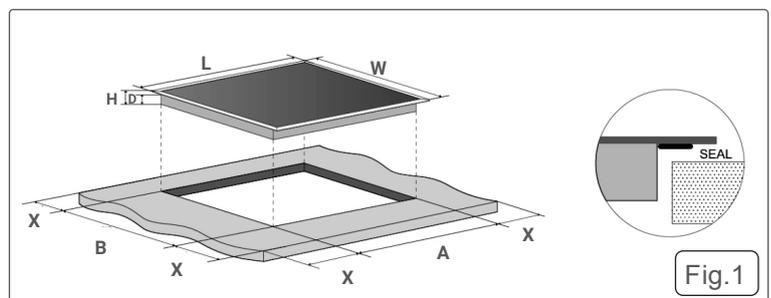
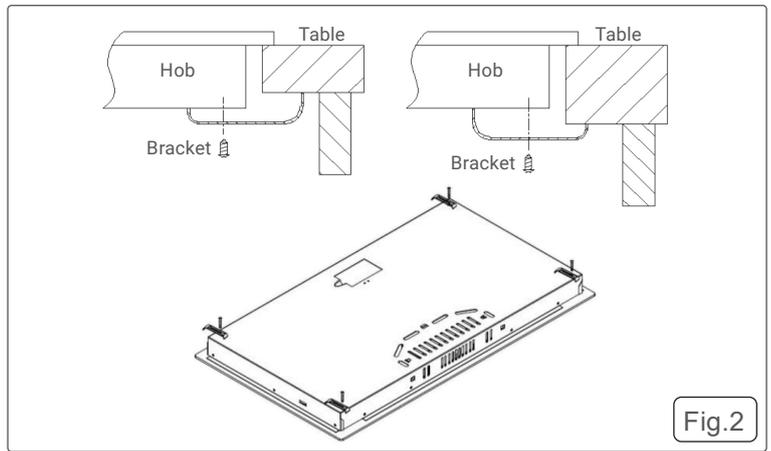
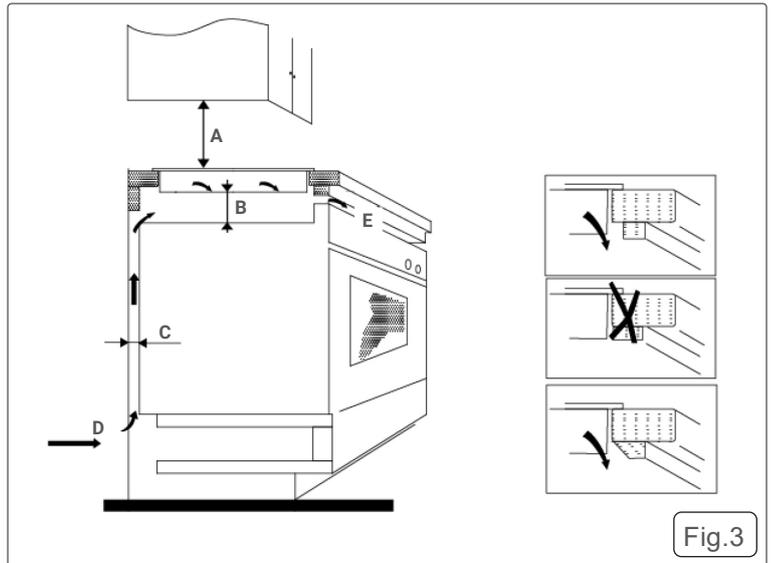

Fig.1
Fig.2
Fig.3
- **POSITIONING THE APPLIANCE SEE FIG.1 & FIG.2**
- The cooker hob is designed for installation on a work surface. Ensure that a minimum clearance of 50 mm is maintained around the cut-out to allow for proper ventilation, heat dissipation, and safe operation. The work surface should be level, stable, and made of heat-resistant material. Before installation, verify that all adjacent surfaces, cabinetry, and walls comply with the recommended safety distances specified in the manufacturer's guidelines see fig.1, fig.3. Proper installation ensures optimal performance, safety, and longevity of the appliance.
- To ensure a correct ventilation of the hob please comply with the dimensions shown in fig.3.
- Minimum ventilation clearance requirements are 760mm above the hob, 5mm below the underside and 2cm from the rear (fig.3).
- Ensure the work surface is level and square, and that no part interferes with the space required for installation. Secure the hob to the work surface using the screws and fixing brackets supplied with the appliance. Refer to Fig. 2 for installation details. Adjust the position of the brackets as necessary to suit different work surface thicknesses, ensuring the hob is firmly and evenly fixed in place.
- **IMPORTANT:** There are ventilation spaces around the outside of the hob. **YOU MUST** ensure that these spaces are not blocked by the work top, when you put the hob into position (see fig.3).